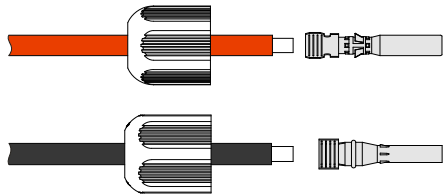

Figure3-39 Crimp the metal terminal
- Step 2 Unscrew the lock nut of positive and negative connection, lead the positive and negative wires go through corresponding lock nut, and then insert the positive wire and negative wire into the positive metal terminal and negative metal terminal respectively. Crimp the metal terminals firmly by crimping pliers, as shown in Figure3-39.